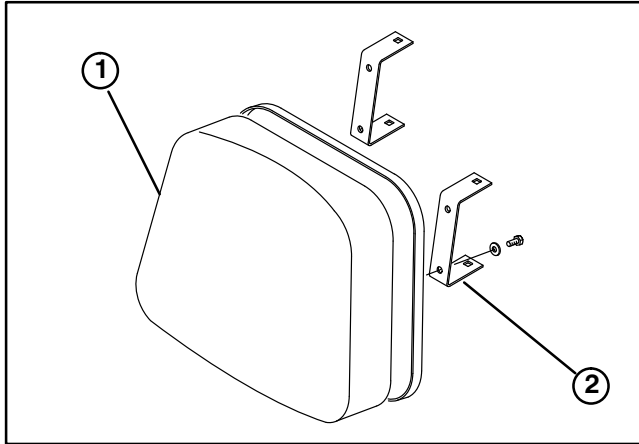

Figure 5
(Fig. 5 – 6)
1. Mount (2) seat back brackets to each seat back cushion with (4) 1/4–20 x 3/4" lg. capscrews and 1/4" flat washers. Position brackets on seat back cushions as shown in figure 5.